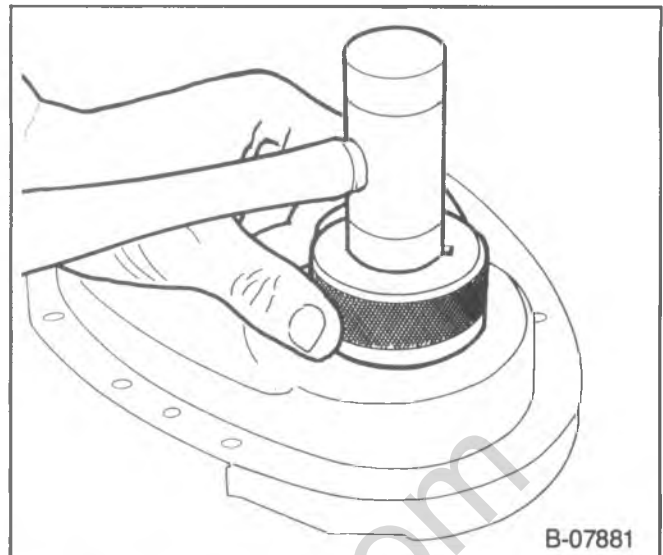

Figure 19—Installing the Front Crankshaft Oil Seal
**Install or Connect (Figure 19)**
1. Front crankshaft oil seal. Use J-35468 (figure 19). The open end of the seal faces inside the engine. Coat the seal lips with engine oil.